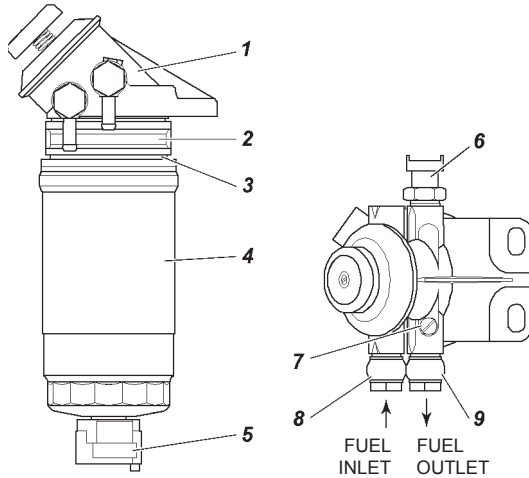

Fig. 9.17. Fine fuel filter with priming pump:
Final fuel filter with hand pumping and water detection sensor (BOSCH, 0 450 126 273) is shown on Fig. 9.17.
1. Unscrew housing with cartridge 4 (Fig. 9.17).
2. Loosen the air release plug 7 (Fig. 9.17) on the final fuel filter (FFF). Using the manual priming pump 1 on the FFF, fill the main line until air bubbles disappear from the fuel going from under the air release plug;